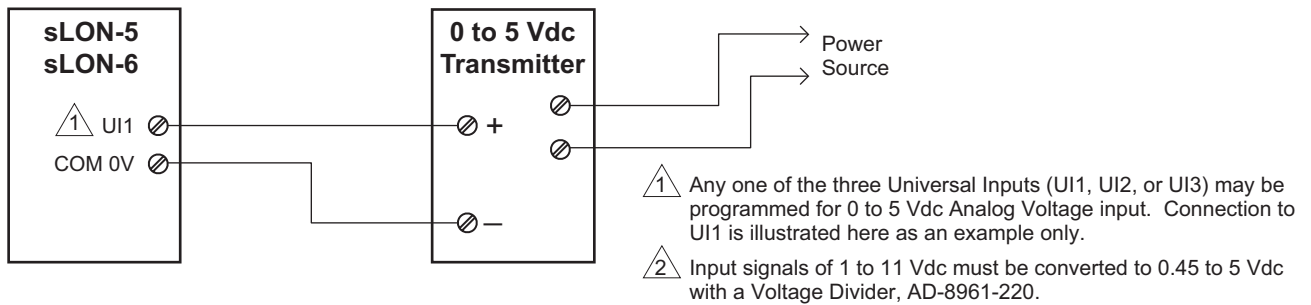

Figure-11 Typical Wiring for 0 to 5 Vdc Analog Voltage Input.
6. Analog Voltage (refer to Figure-11).
Any of the sLON-5 or sLON-6 controller's UI inputs can be configured for the 0 to 5 Vdc Analog Voltage Transmitter input. Make the connections according to the diagram in Figure-11.